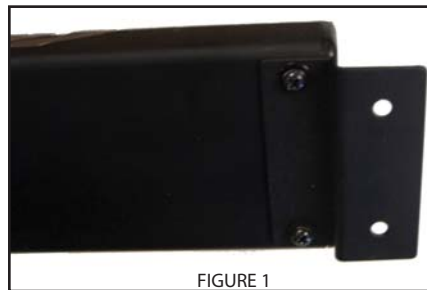

FIGURE 1
2. Install mounting brackets to both ends of the lightbar by uninstalling the two screws on either side of the light. Remove and throw away plastic washers before re-installing screws with metal brackets. See Figure 1 for details
3. Prior to drilling or mounting, consideration should be given to cable location and light placement. The cable should exit the end cap on the driver's side unless otherwise specified. Using the light as a template, mark the location of the (4) mounting holes on either end of the light and the wire exit location.
5. Drill (4) appropriately sized mounting holes for installer supplied mounting screws.
8. Remove strain relief/wire seal from empty black plastic control box cover supplied in your installation kit. Feed the control wire from the bar through the strain relief as shown in Figure 1.